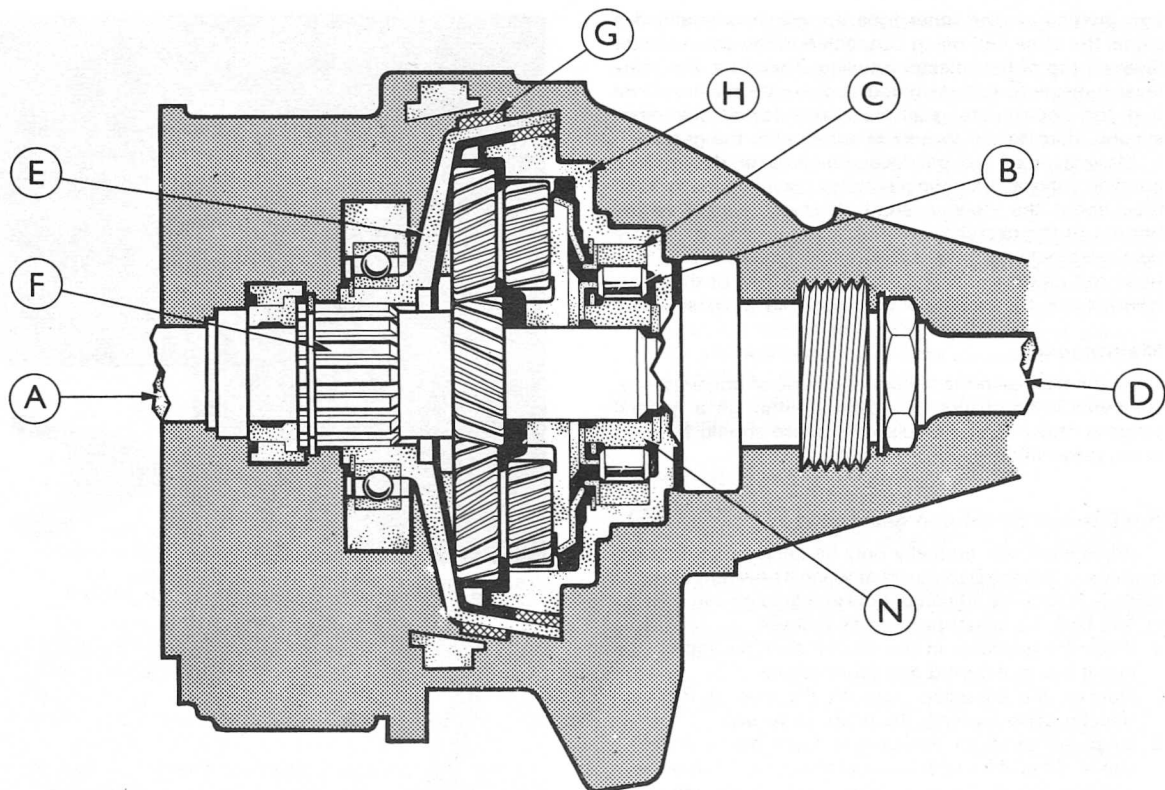

FIG 6:8 The overdrive diagrammatic
Key to Fig 6:8 A Input shaft B Rollers C Outer member of unidirectional clutch D Output shaft
- 1 Refer to FIG 6:7. Hold the gearlever towards the first/second gear plane so that there is a .050 inch gap between the gearlever tip and the insert in the gear selector pivot lever.